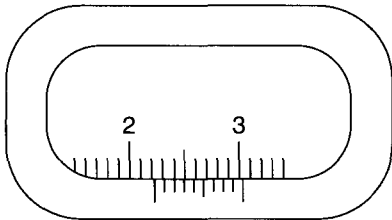

Figure 2-4 Example of a reading of a vernier caliper.
2. Figure 2-4 shows a vernier caliper scale set to a particular reading. What is the reading of the scale?